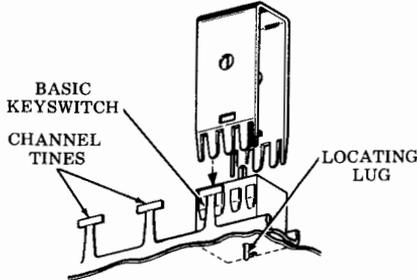

Fig. 11—Keyswitch Removal
- (d) Place 346257 tool over the keyswitch and press downward. When the tool bottoms and embossed projections snap into notches on keyswitch, squeeze and pull back on the tool to lift keyswitch out (Fig. 11).